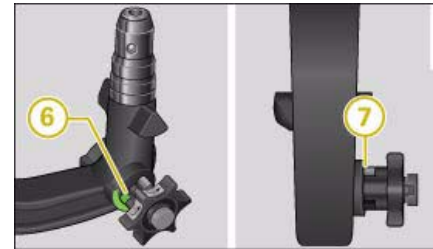

Fig. 212 Removable towing bracket: Safety check
- Check that the green marking **(6)** ⇒ fig. 212 on the knob is inside the green zone on the ball joint.